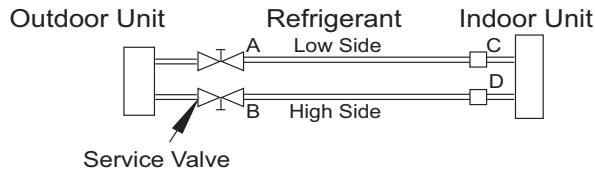

Fig. 47 —Service Valve
1. Completely tighten flare nuts A, B, C, D. Connect the manifold gage charge hose to a charge port of the low side service valve (see Fig. 47).